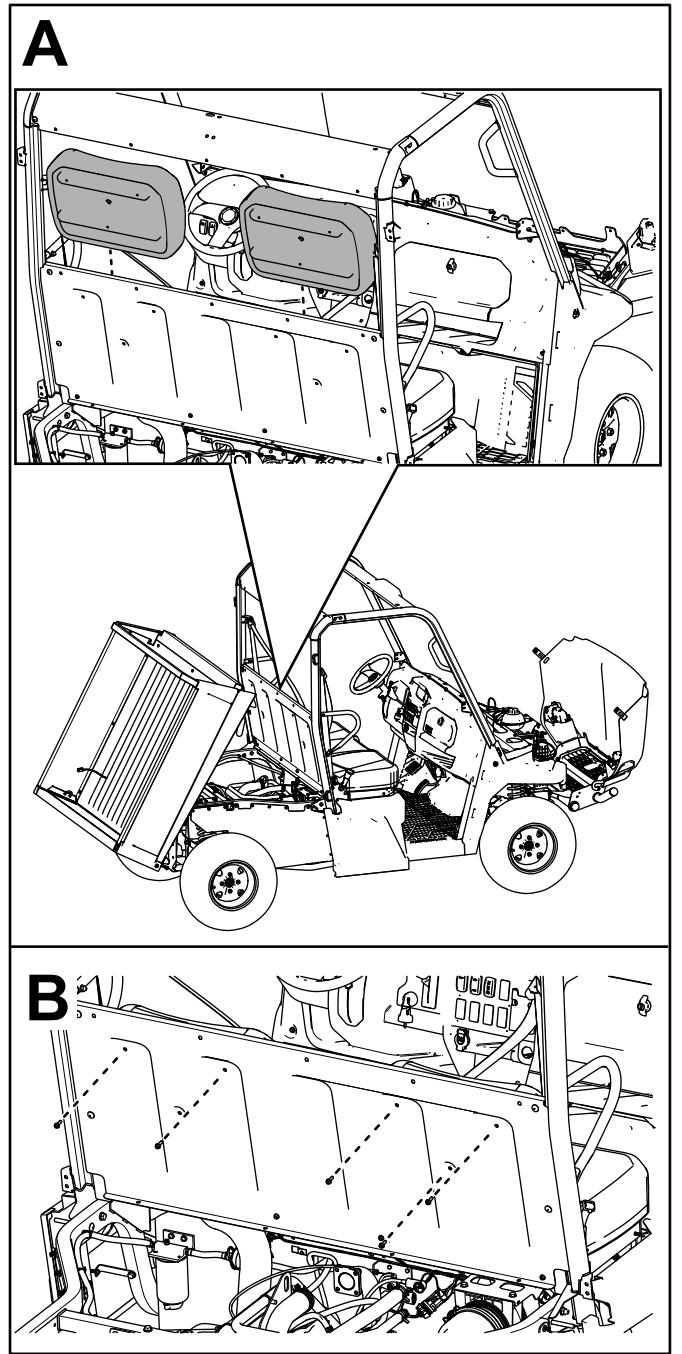

Figure 27
E. Secure the 2 seat backs to the seat panel using 5 hex-washer head bolts (1/4 x 3/4 inch) as shown in Figure 27.